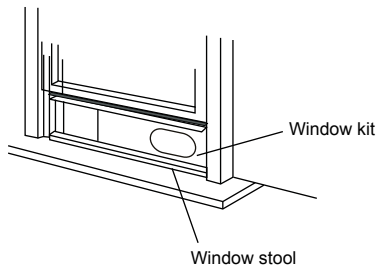

Fig. 10
3. Cut the foam seal (adhesive type) to the proper length and attach it on the top of the window. Shown as in Fig. 10